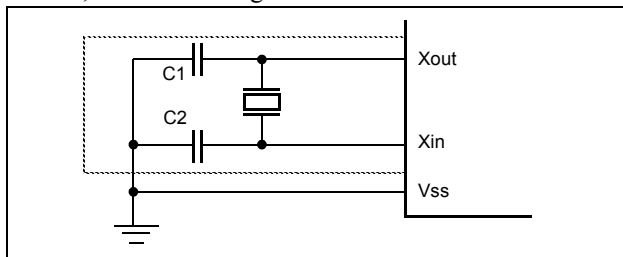

Figure 10-2 Oscillator Connections
$X_{IN}$  and  $X_{OUT}$  are the input and output, respectively, a inverting amplifier which can be set for use as an on-chip oscillator, as shown in Figure 10-2.
**Note:** When using a system clock oscillator, carry out wiring in the broken line area in Figure 10-2 to prevent any effects from wiring capacities.